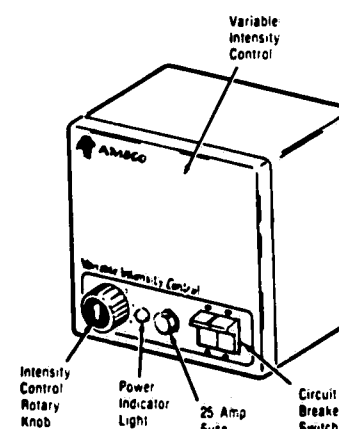

Figure 2-1. 25 AMP VARIABLE INTENSITY CONTROLLER.
2.2 25 AMP VARIABLE INTENSITY CONTROL (See Figure 2-1)